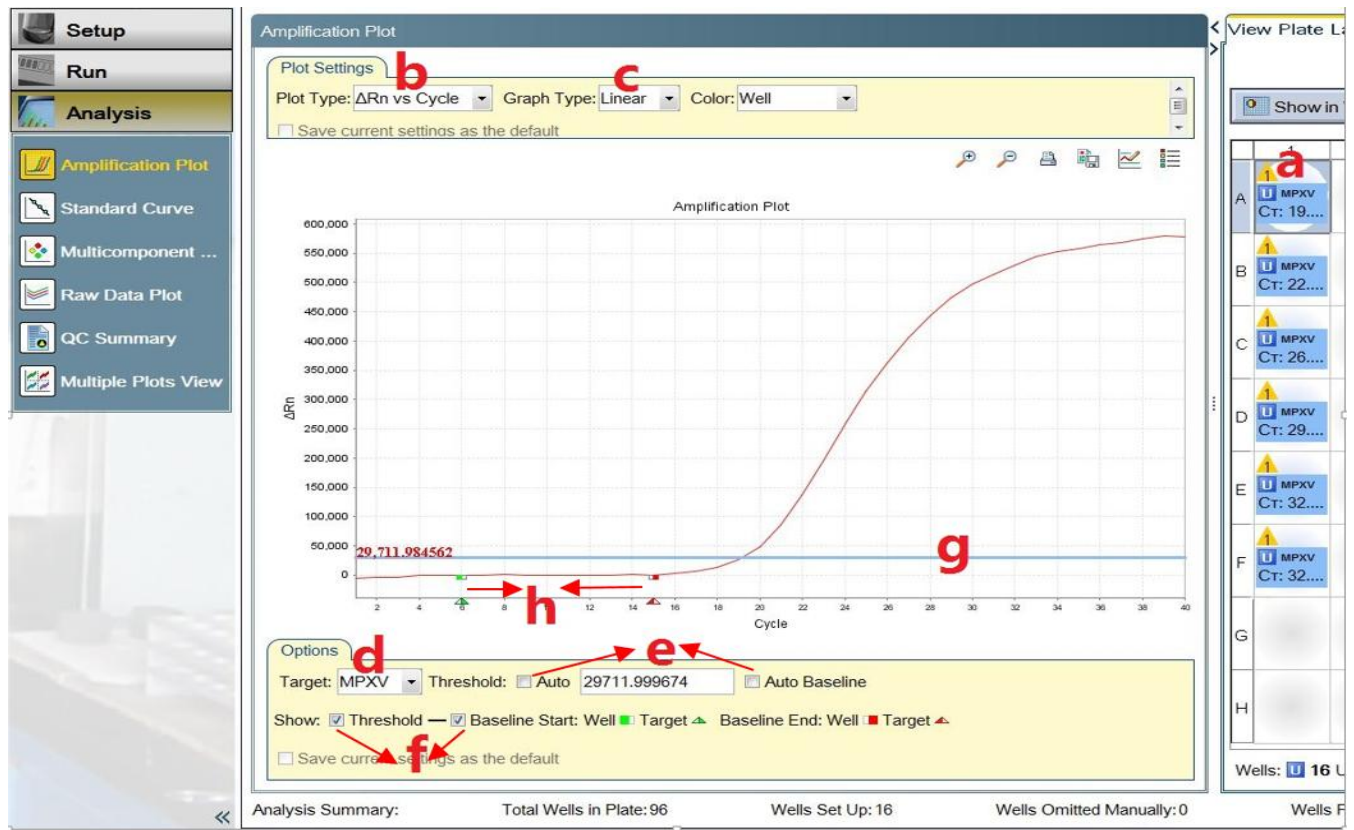

Figure 1. Amplification Plot Window on Applied Biosystems 7500 (Software Version 2.3)
- 2) Select the Amplification Plot tab to view the raw data (see **Figure 1**).
- 3) Start by highlighting all samples from the run; to do this, click on the upper left hand box **(a)** of the sample wells (see **Figure 1**). All the growth curves should appear on the graph.